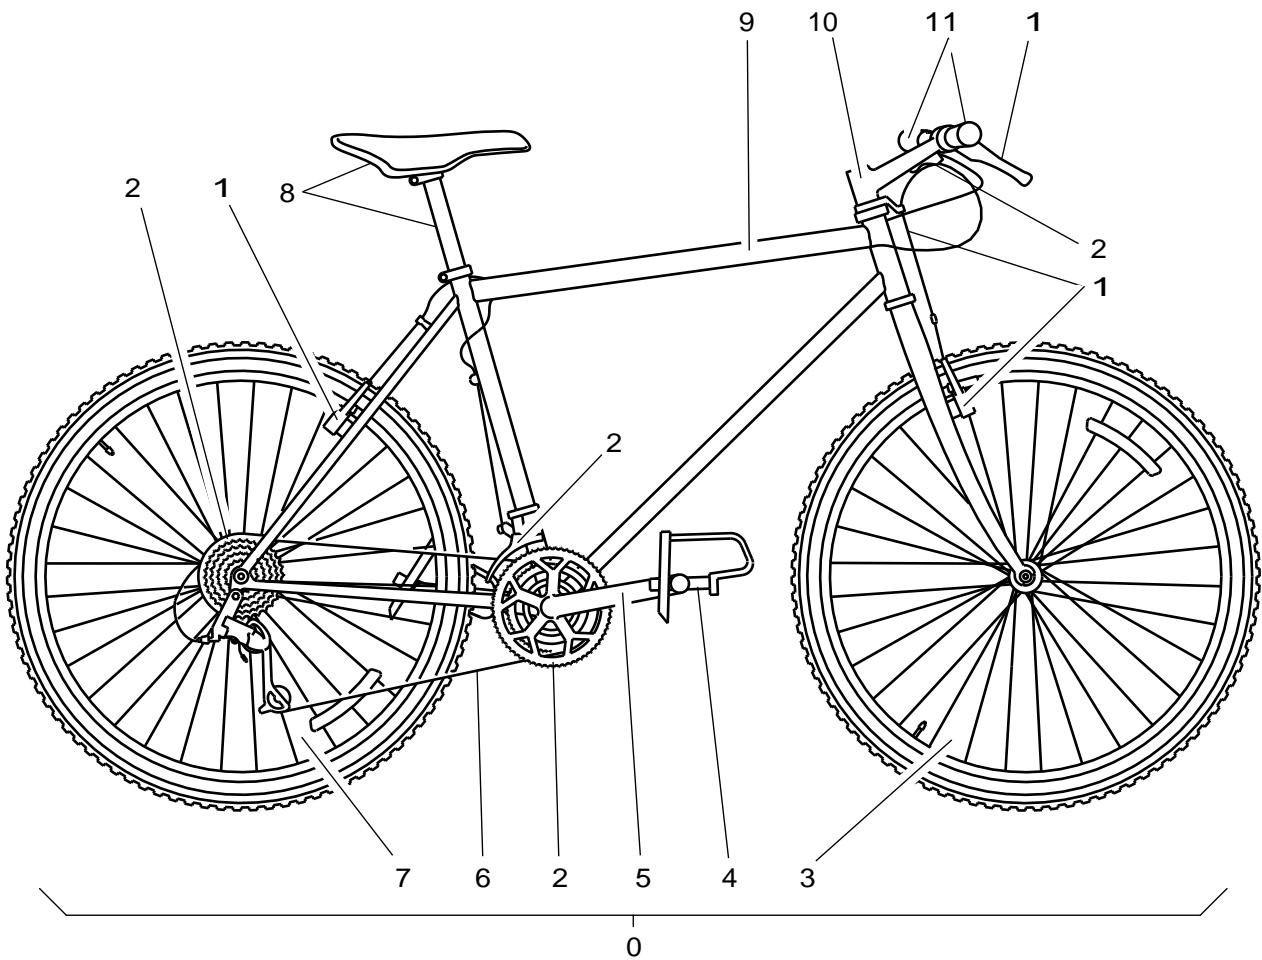

Fig 1 Complete bicycle
A bicycle (refer to Fig 1) is a frame and a number of movable components with mechanical parts that are completely open. There are no covers or sheet metal panels that prevent access to the mechanical parts. Thus, you can disassemble the different components of a bicycle (refer to [Fig 1 \[0\]](#)) to do:
- Rear wheel	Fig 1 [7]
- Front wheel	Fig 1 [3]